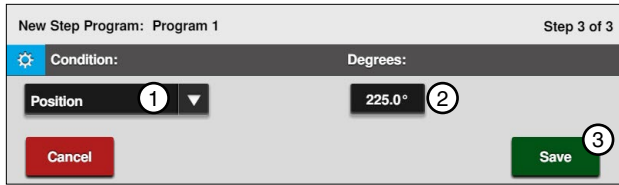

Figure 110-1 1. Condition 2. Degrees 3. Save
8. Program the position condition for this step. Refer to Figure 110-1.